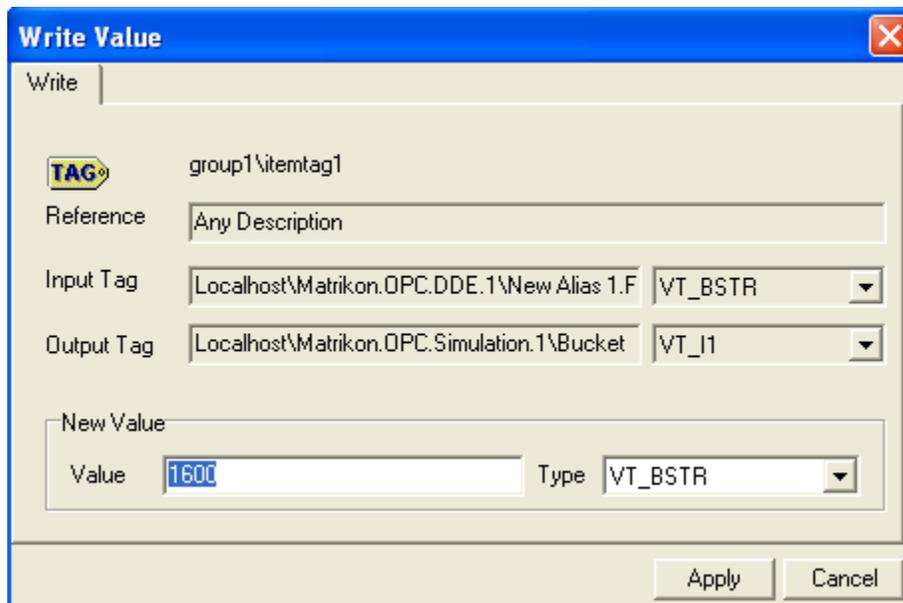

Figure 29 - Write Value Window
3. The **Write Value** window (Figure 29) appears.